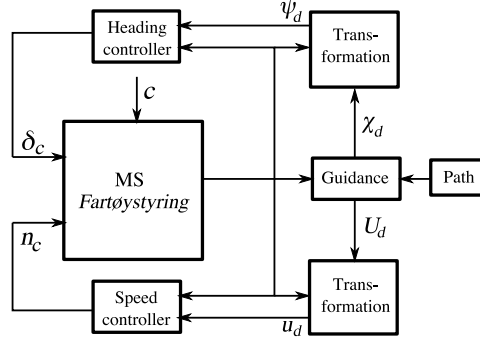

Figure 5: Controller structure for Section 2, Tasks 2.5–2.7.
**Task 2.5.** Design transformations that purposefully convert  $\chi_d$  to  $\psi_d$  and  $U_d$  to  $u_d$ , see Figure 5. Justify your conversion methods, and implement them in *Matlab/Simulink*.